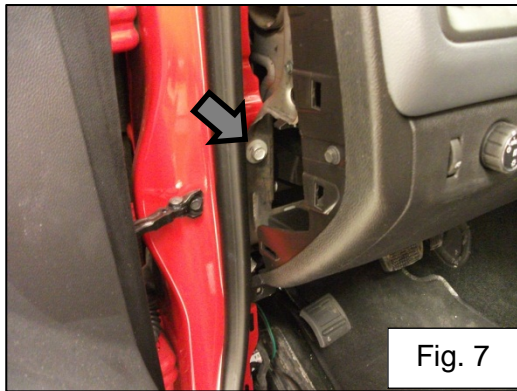

Fig. 7
13. Ground the subwoofer harness to the bolt securing the left side of the dash. Tighten to 19Nm (14ft-lb) Fig. 7